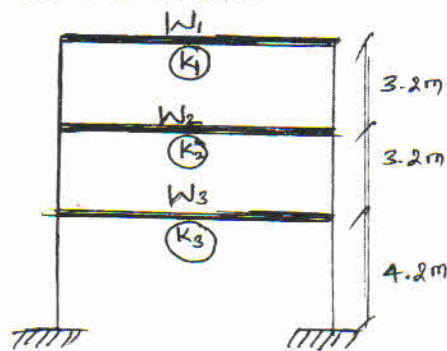

Fig.Q6
- 6 For an RCC (SMRF) building with foundation on a soft soil, situated in zone – V as shown in Fig.Q6. Compute the seismic forces for each storey using dynamic analysis procedure.